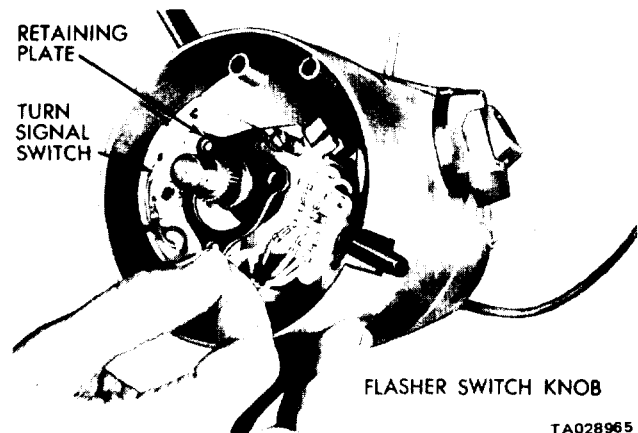

Figure 21-9. Retainer and Turn Signal Switch
(1) Clamp the column assembly in a vise.
(2) Drive out the gear selector lever pin, then remove the lever and spring from the housing.
(3) Remove the turn signal switch and upper bearing retainer screws. Remove the retainer and lift the switch up out of the way (figure 21-9). Remove the turn signal lever.